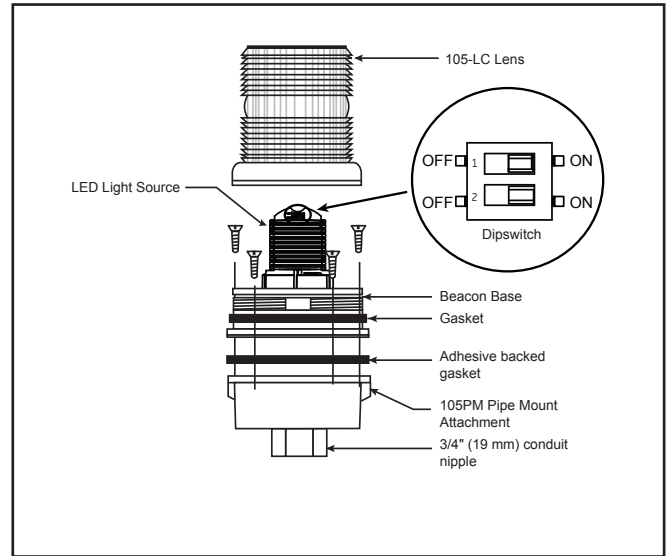

Figure 2. Securing the Beacon to the Mounting Attachment (Pipe Mount Attachment shown)
- c. **Cat. No. 105PM:** Install 3/4" (19 mm) conduit. Screw the pipe mount attachment onto the 3/4" (19 mm) conduit. Attach the adhesive backed gasket to the top of the 105PM pipe mount attachment, being careful to line up the holes in the gasket with the mounting holes in the outlet box as shown in Figure 2.